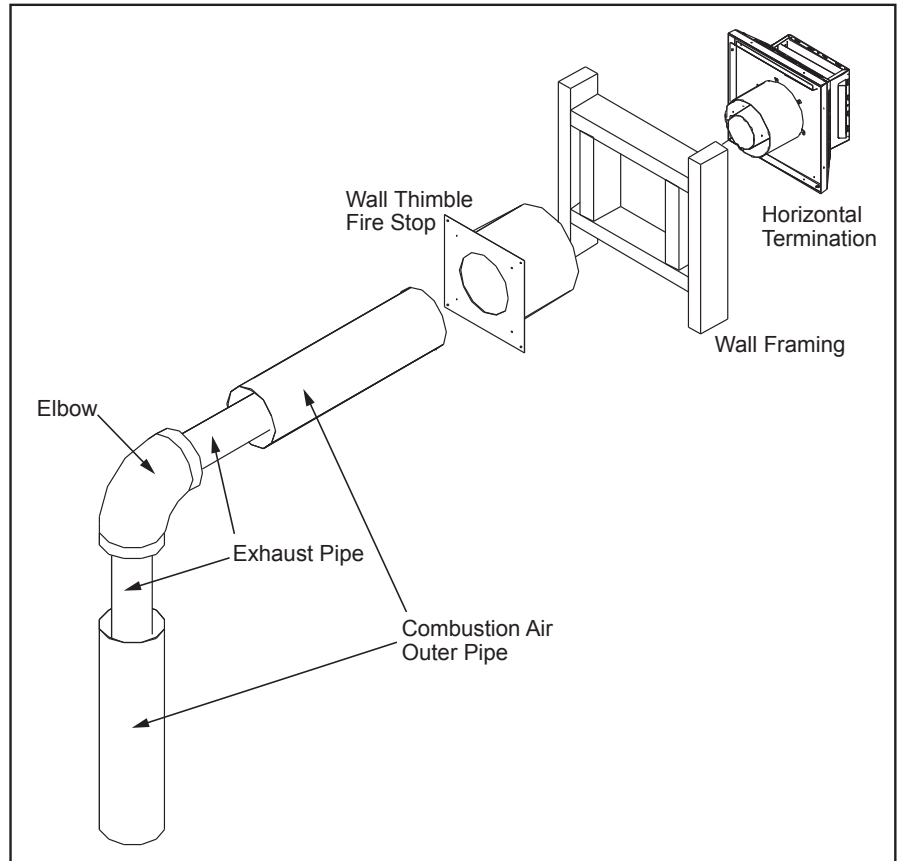

Figure 32. Horizontal Vent Termination
Step 3. With the pipe in the correct position and attached to the fireplace, mark the wall for a 10 inches (25.4 cm) x 10 inches (25.4 cm) square hole (see Figure 32). The center of the hole should match the center line of the horizontal pipe. Cut and frame the hole in the exterior wall where the vent will be terminated. If the wall being penetrated is made of a non-combustible material (i.e. masonry or concrete) a 7 inches (17.8 cm) hole is acceptable.